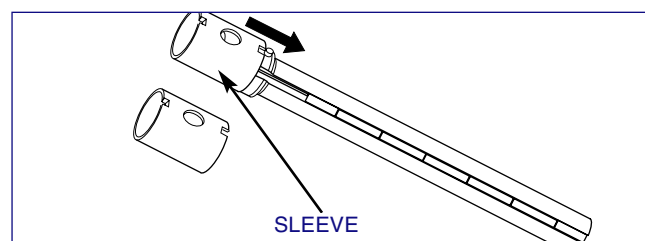

FIGURE 3-5, Sleeve
6. Place Concentric Sleeve on mandrel, if mandrel requires it (*see Figure 3-5*).